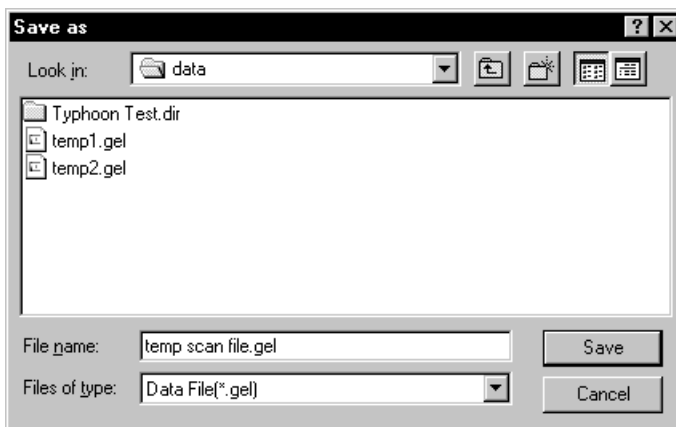

Figure 6-7. The Save as window.
3. In the Scanner Control window, click the **Scan** button. The Save as window appears (figure 6-7).